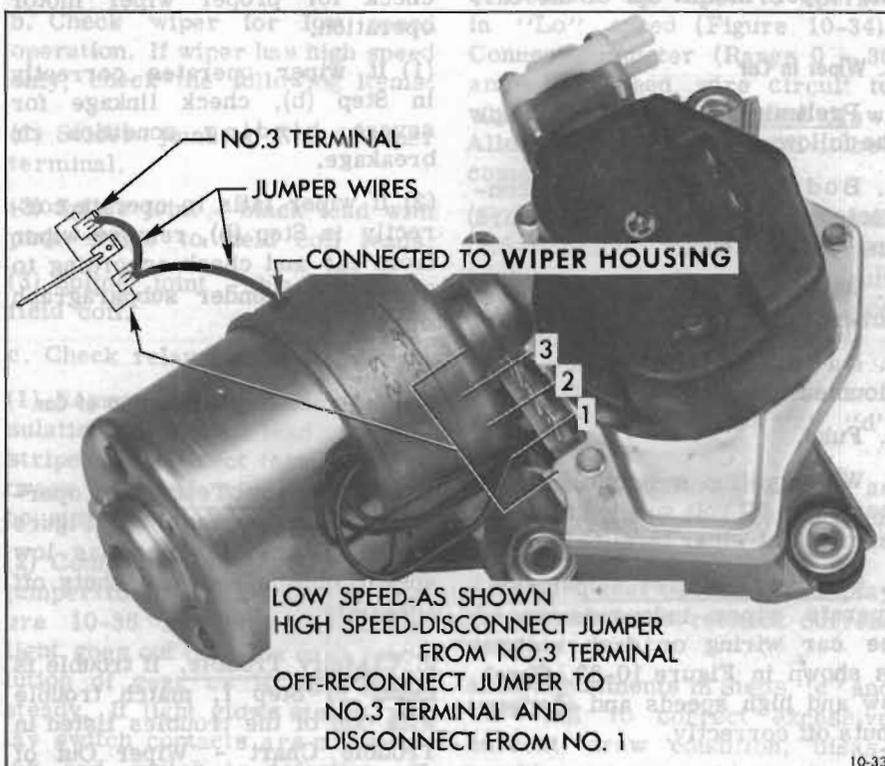

Figure 10-33—Connections to Operate Wiper Independently of Dash Switch
2. Checking Wiper Operation. Operate wiper independently of the car wiring or dash switch, as shown in Figure 10-33. Check low and high speeds and if wiper shuts off correctly.